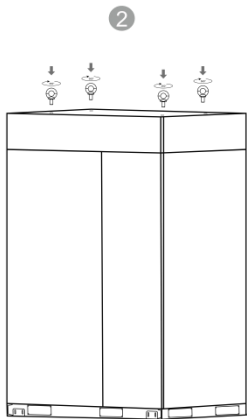
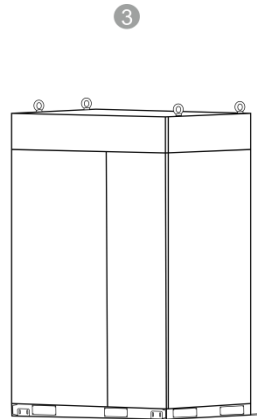

Figure.2
Figure.3
2. Insert the four eye bolts into holes on the top f the machine and then turn them clockwise until they are secured firmly. See the Figure.2 and Figure.3.